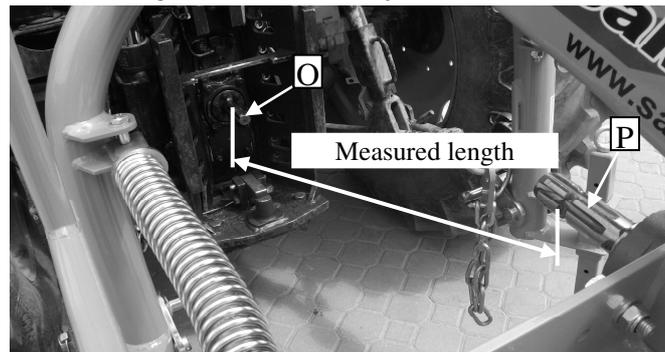
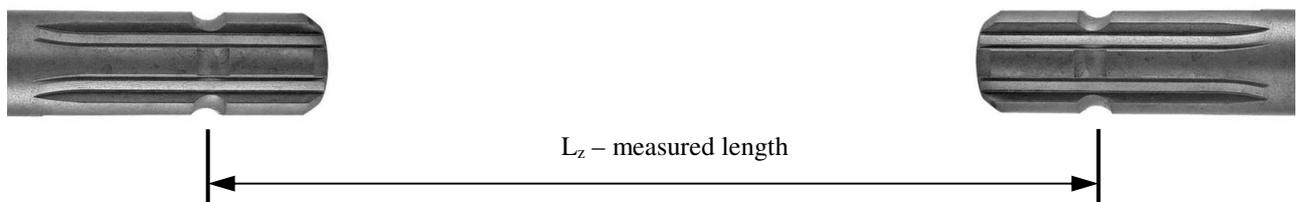

Fig. 16. Distance between tractor's PTO shaft and machine's drive shaft
Fig. 17. Properly measured length
- take measurement of distance between two shafts as provided on **Fig. 16** and **Fig. 17**,